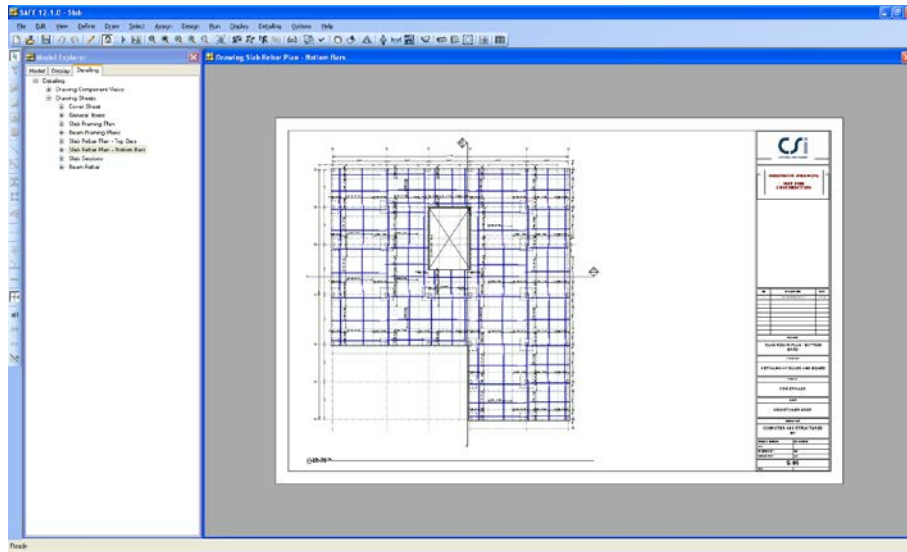

Figure 47 Slab Rebar Plan
- O. Click the **OK** button to leave the Display Detailing Item form and display the selected drawing shown in Figure 47.